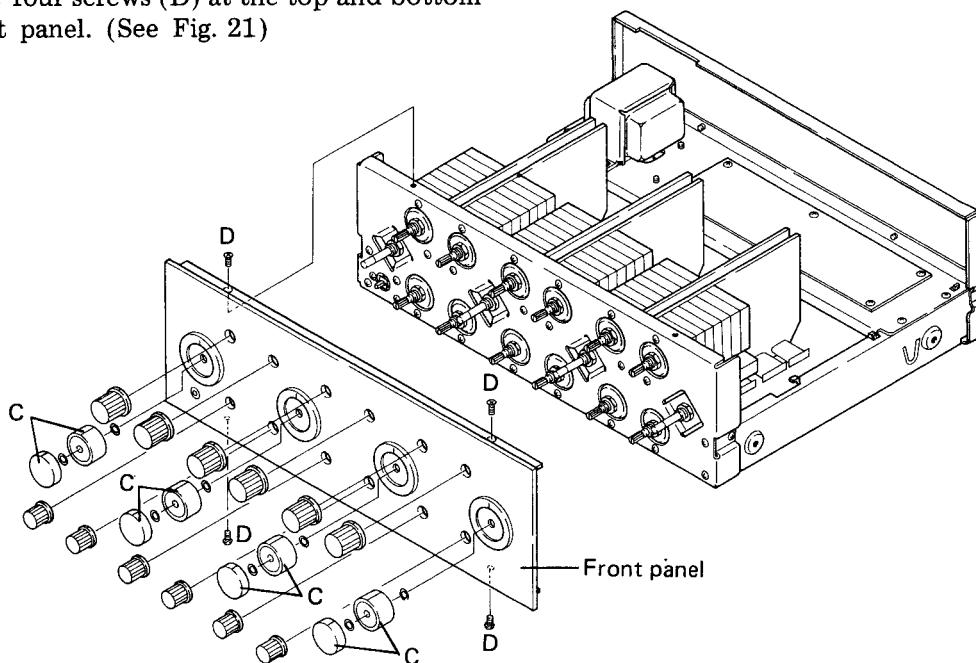

Fig. 21
Remove the four screws (D) at the top and bottom of the front panel. (See Fig. 21)